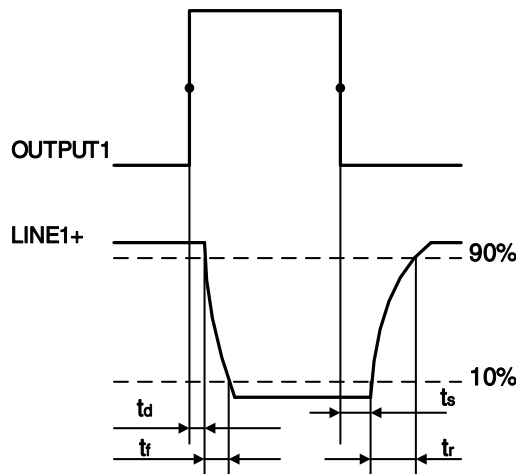

Figure 7-10 Parameter of opto-isolated output circuit
- Rising time delay = tr+td: <math><50\mu s</math> (0°C~45°C) (parameter description is shown in Figure 7-10)
- Falling time delay = ts+tf: <math><50\mu s</math> (0°C~45°C) (parameter description is shown in Figure 7-10)